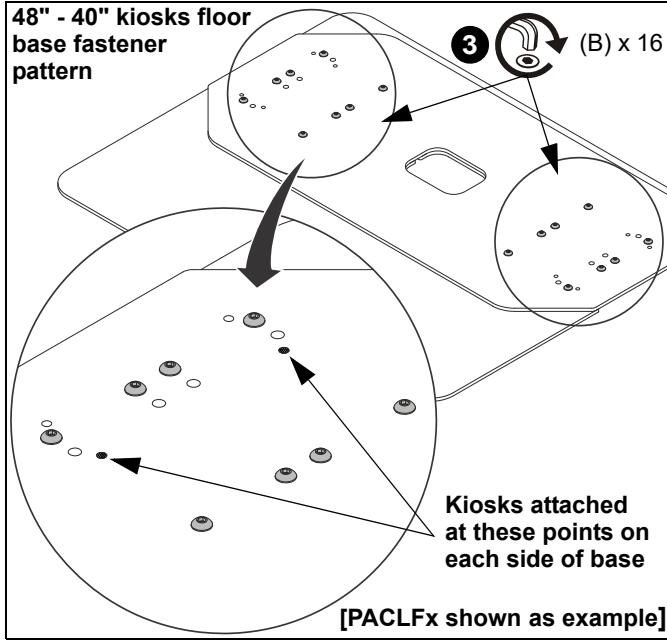
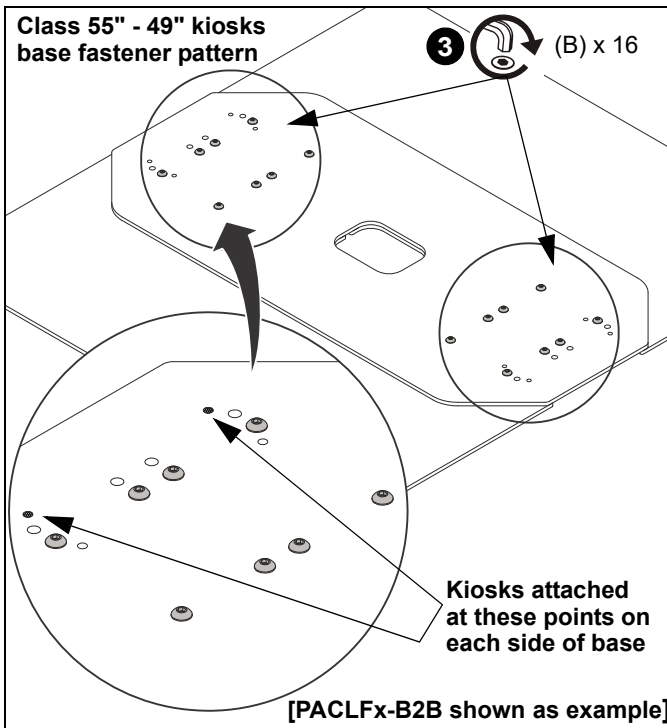

Figure 4
Figure 5
IMPORTANT ! : When assembling the base, the fasteners are placed in different holes depending upon whether you are using the PACLFx / PACLFx-B2B for a 48" - 40" kiosk or a 55" - 49" kiosk. (See Figure 4) and (See Figure 5)
IMPORTANT ! : (See Figure 4) for 48" - 40" kiosks, and (See Figure 5) for 55" - 49" kiosks.
1. Place kiosk onto base, lining up mounting holes on kiosk and base. (See Figure 4) and (See Figure 5)